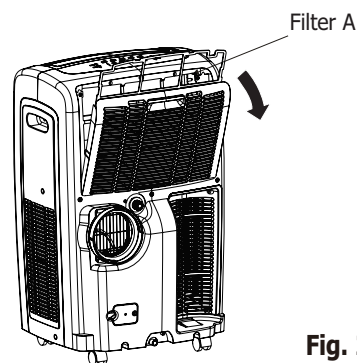
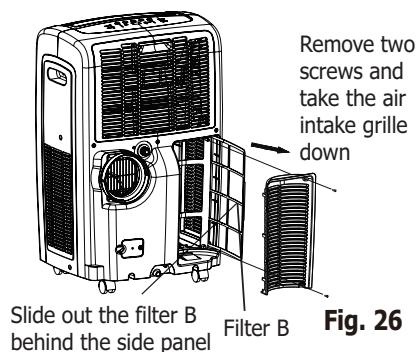

Fig. 25
Fig. 26
- This unit has three filters, they are filter A, B and C. Grasp the upper panel tab and take off the filter A which is behind the grill of the back panel (Fig.25). Remove the lower filter B and C by loosening the screws. Take down the air inlet grille, then remove the air filter as shown in Fig.26 & 27.